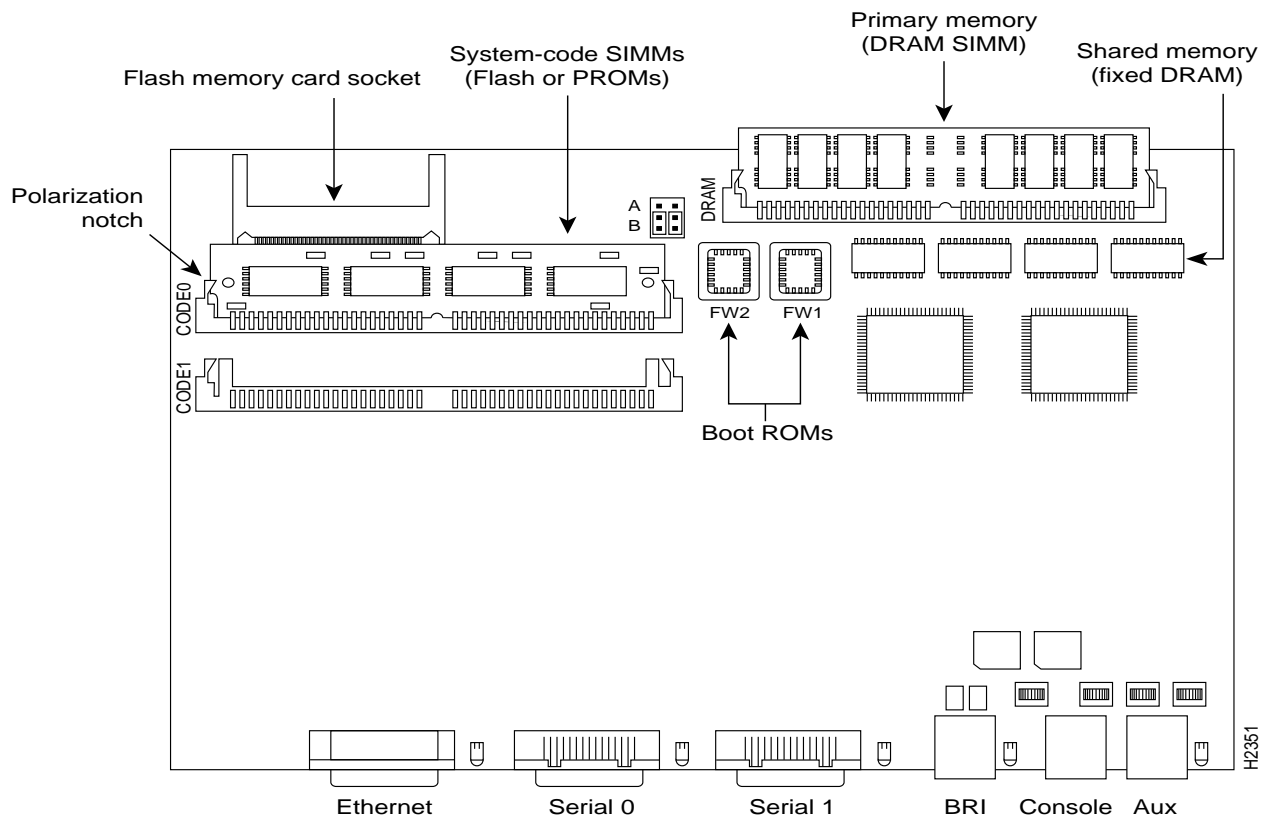

Figure 2 System Board Layout—Model 2503 Shown (Chassis, Fan, and Power Supply Not Shown)
Warning Network hazardous voltages are accessible in the Basic Rate Interface (BRI) cable. If you detach the BRI cable, detach the end away from the router to avoid possible electric shock. Network hazardous voltages also are accessible on the system card in the area of the BRI port (RJ-45 connector), even when power is OFF. (See Figure 2.)
Step 8 When the top cover is off, set it aside. Figure 2 shows the layout of the system board, which is attached to the bottom section of the chassis.
Warning Network hazardous voltages are accessible in the BRI cable. If you detach the BRI cable, detach the end away from the router first to avoid possible electric shock. Network hazardous voltages also are accessible on the system card in the area of the BRI port (RJ-45 connector), even when power is OFF (See Figure 2).
Note To locate components in the following procedures, refer to Figure 2.